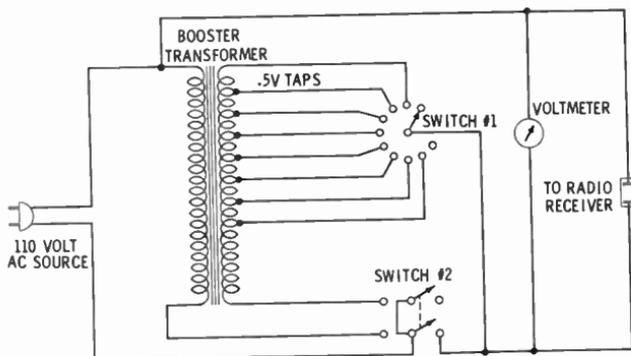

Fig. 1. Schematic diagram of a voltage-compensating circuit.
**What Can Be Done To Compensate for Line-Voltage Fluctuations Which at Times May Amount to 10% or More?**—A simple remedy may be afforded by the addition of a booster transformer as shown in Fig. 1. This transformer, which is connected directly to the line circuit, steps up the voltage, thereby compensating for the drop. The transformer should have a rating in watts equal to or higher than that of the radio receiver that it supplies.